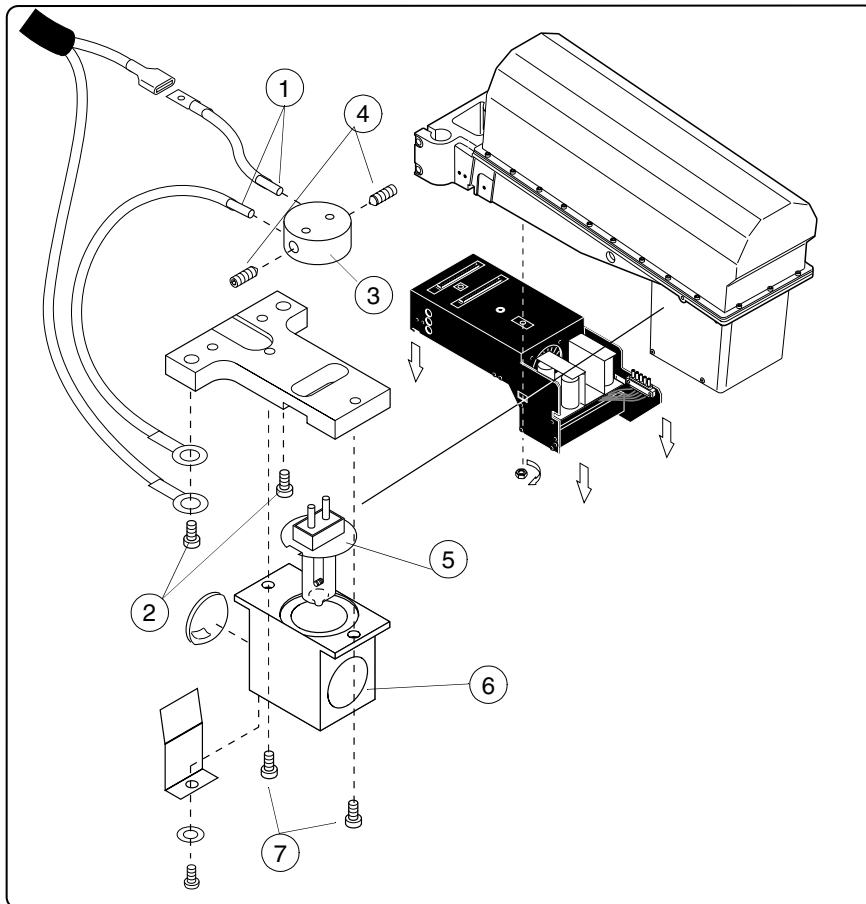

Figure H.13
- c) Disconnect the bulb wires (Fig. H.13, 1).
- d) Remove the lamp housing assembly from the installation plate by removing the two screws (Fig. H.13, 2)
- e) Remove the lamp holder (Fig. H.13, 3) by loosening the two screws (Fig. H.13, 4).
- f) Remove the lamp housing (Fig. H.13, 6) by removing the two screws (Fig. H.13, 7).
- g) Pull the bulb (Fig. H.13, 5) out of the housing and replace with a similar one (12V/30W).